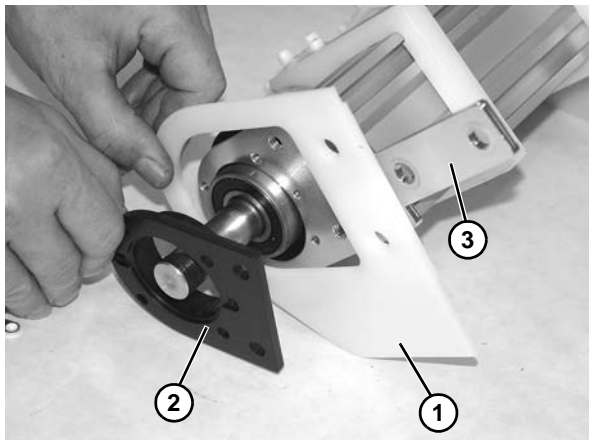

Figure 52
8. Remove drive filler plate (**Figure 52, item 1**) and bearing housing (**Figure 52, item 2**) from drive backing plate (**Figure 52, item 3**).